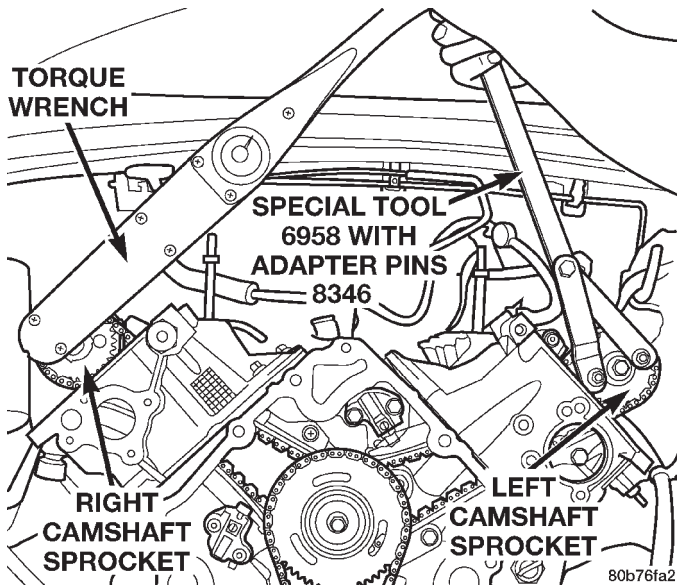

Fig. 8 Camshaft Sprocket Installation—Right Cylinder Head
(6) Position the camshaft drive gear onto the camshaft, and install the retaining bolt. Using Special Tools, Spanner Wrench 6958 with Adapter Pins 8346 and a suitable torque wrench, Tighten retaining bolt to 122N·m (90 ft. Lbs.) (Fig. 7) (Fig. 8).
(7) Remove special tool 8350.